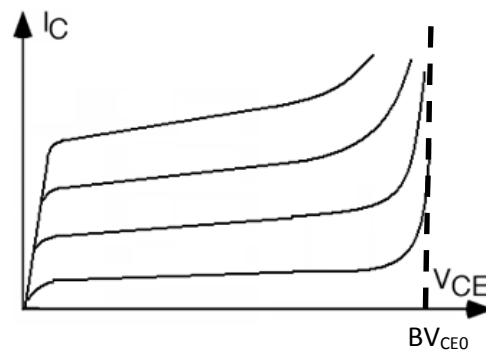

Figure 6. I_C - V_{CE} characteristics of a BJT and the common-emitter breakdown voltage (BV_{CE0}).
- Plot the I_C - V_{CE} characteristics curves similar to one shown in Figure 6 using your data.